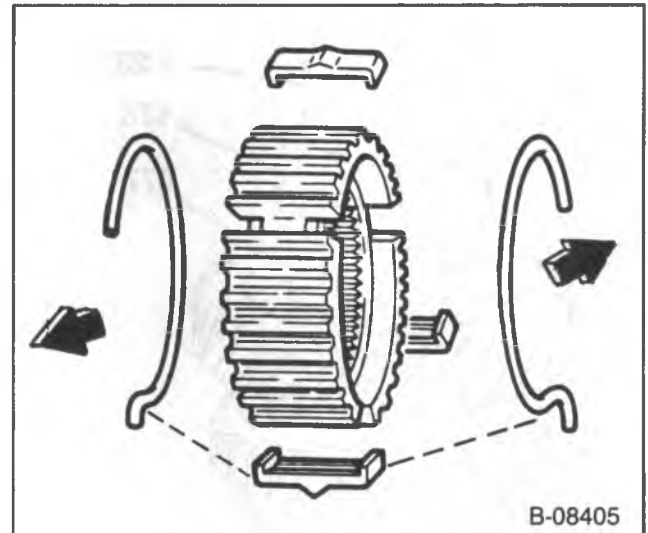

Figure 23—Synchronizer Spring Location
- Engage the springs in the same key with the open ends away from each other (figure 23).